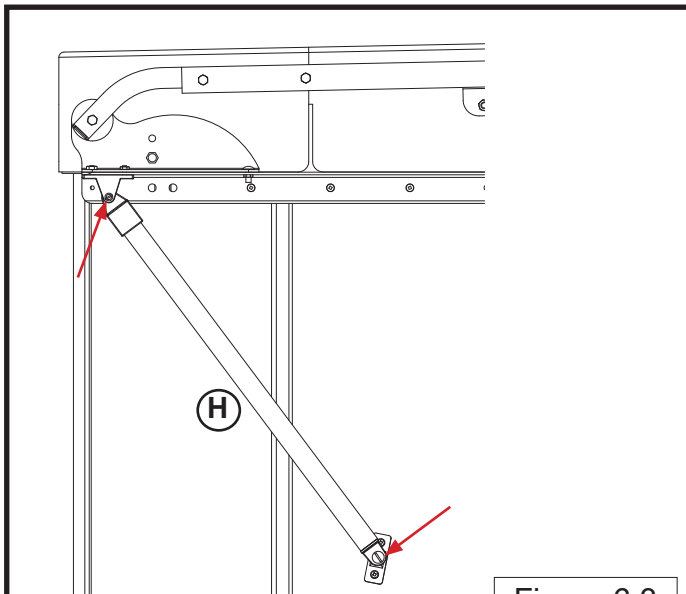

Figure 6.3
- Tighten the screw that fastens the Support Tube (H) to the Deck Hinge and the screw that Fastens the Support Tube (H) to the Side Hinge Figure 6.3)